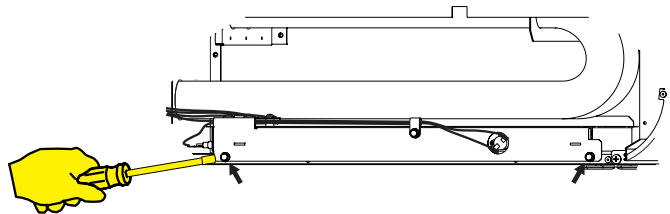

Figure 5
- Install two #10 x 1/2 hex head screws through the condensate tray bracket into the bottom panel of the wall furnace. Do not fully tighten these screws. See **Figure 5**.